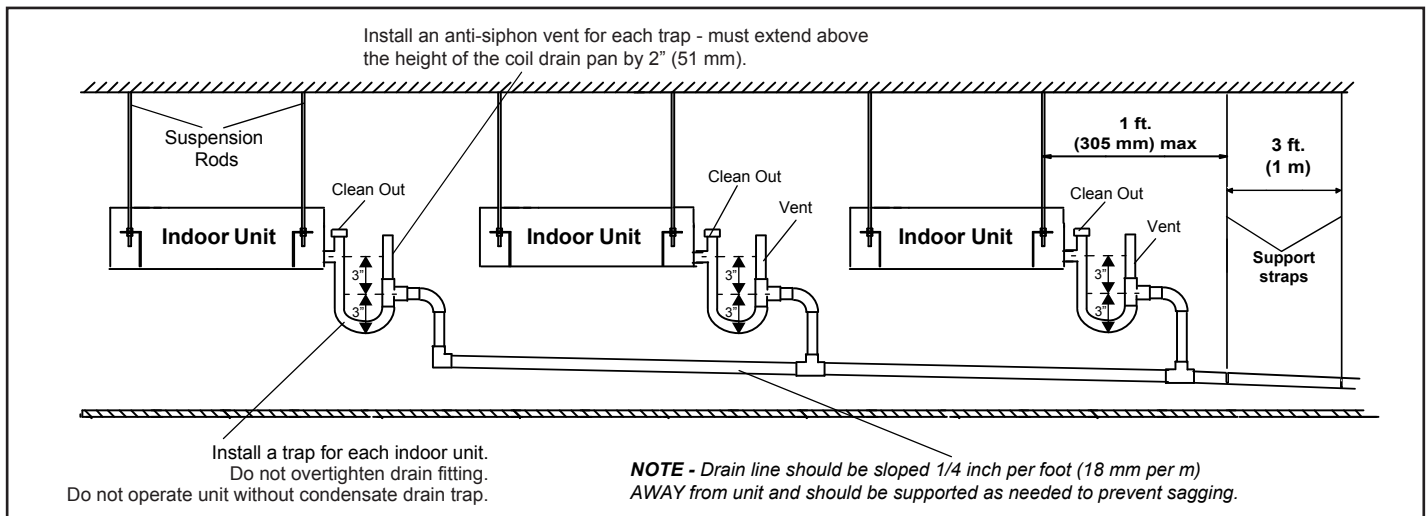

Figure 12. Using a Main Drain to Serve Multiple Indoor Units with Gravity Drains
4. See Figure 12 for applications including multiple units and a single drain. In this case, ensure that the drain line is properly sloped (no less than 1/4 inch per foot) and condensate lines are routed to ensure moisture is drained away from the indoor unit.